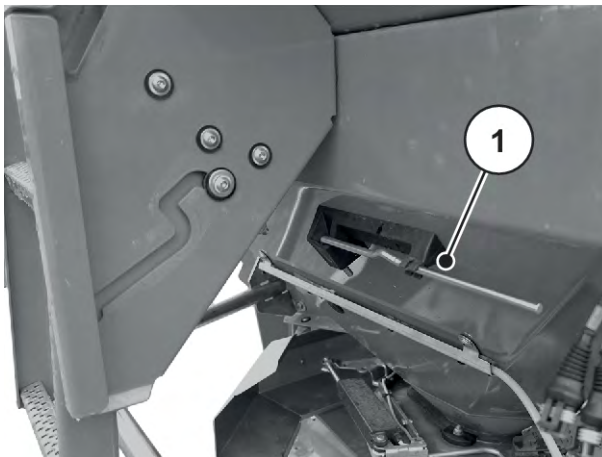

Fig. 26: Position of the adjustment lever AXIS xx.2
- ▶ Put the adjustment lever back into the designated bracket. See *Fig. 26 Position of the adjustment lever AXIS xx.2*